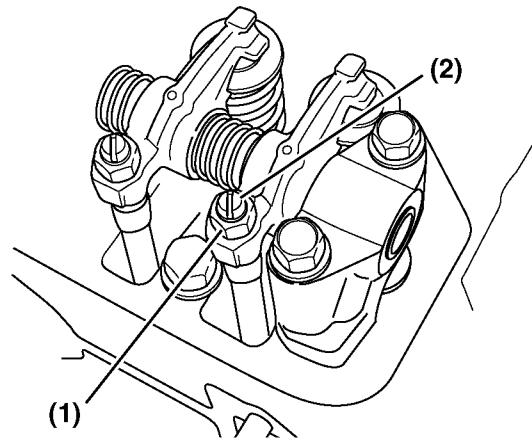
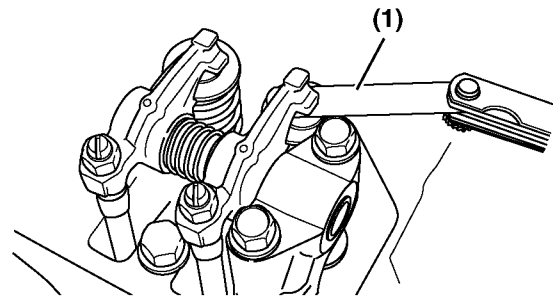

Figure 6-75
Figure 6-76
5. Loosen the valve adjusting screw lock nut (**Figure 6-75, (1)**) and valve adjusting screw (**Figure 6-75, (2)**) on the rocker arm and check the valve for inclination of the valve cap, entrance of dirt, or wear.
6. Insert a feeler gauge of the correct thickness (**Figure 6-76, (1)**) (see *Adjustment Specifications* on page 6-6) between the rocker arm and valve cap. Turn the valve adjustment screw to adjust the valve clearance so there is a slight "drag" on the feeler gauge when sliding it between the rocker arm and the valve cap. Hold the adjusting screw while tightening the valve adjusting screw lock nut (**Figure 6-75, (1)**). Recheck the clearance.